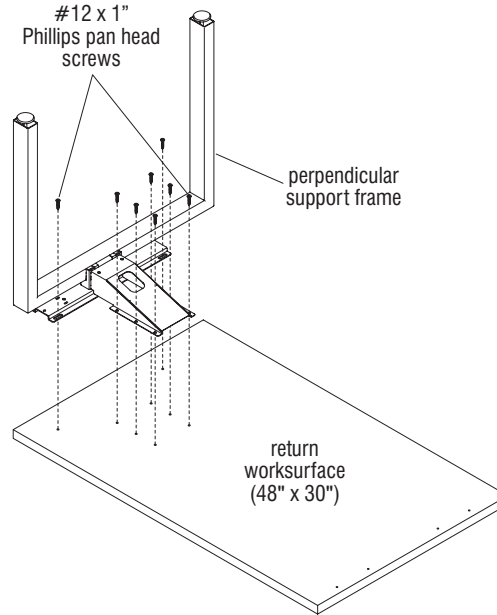

Figure 1 - Single-Sided Fixed Benching - Perpendicular Support Frame Installation
1. Carefully set the return worksurface (to receive the perpendicular support frame) upside down on a soft, protective surface. Position the support frame onto the appropriate pre-drilled holes in the return worksurface. Secure perpendicular support frame to return at all mounting locations using eight #12 x 1" Phillips pan head screws (Figure 1).